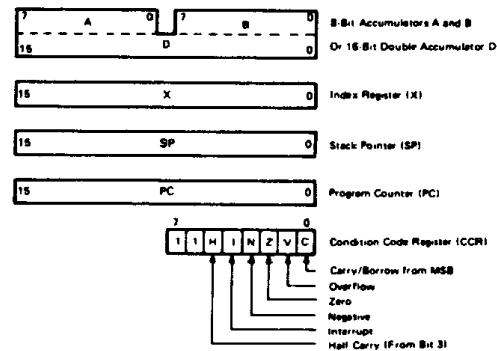

Figure 30 CPU Programming Model
- CPU Programming Model (refer to Fig. 30)
Fig. 30 depicts the HD6301Y0 programming model. The double accumulator D consists of accumulator A and B, so when using the accumulator D, the contents of A and B are destroyed.